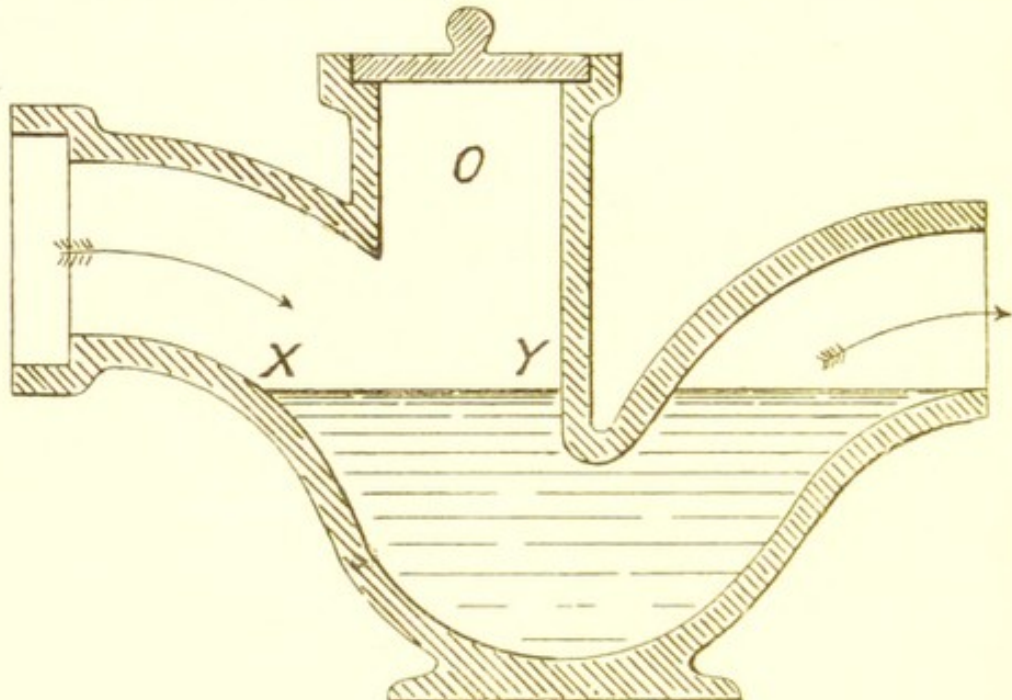

FIG. 15.
*The Croydon Trap* (Fig. 15), though possessing more good points than the last described, still is not a form to be recommended, as the inlet and outlet are again